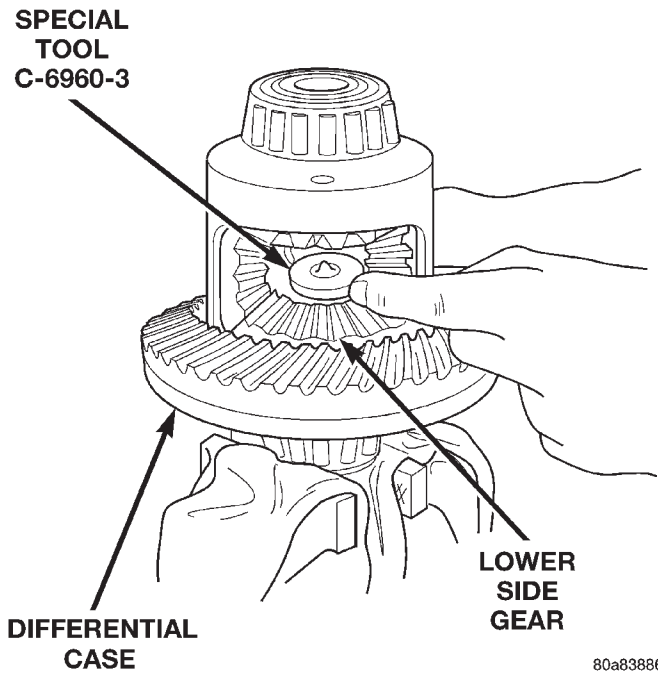

Fig. 55 Step Plate Tool Installation
- (6) Install and lubricate Step Plate C-6960-3 (Fig. 55).
- (7) Assemble Threaded Adapter C-6960-1 into top side gear. Thread Forcing Screw C-6960-4 into adapter until it becomes centered in adapter plate.